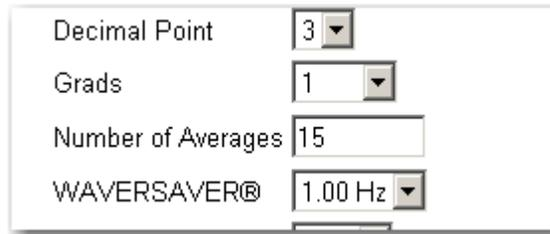

FIG. 194 INSTRUMENT SETUP/ENTERING NUMBER OF AVERAGES
Step 1. Click in the Number of Averages text field. (See Fig. 194)